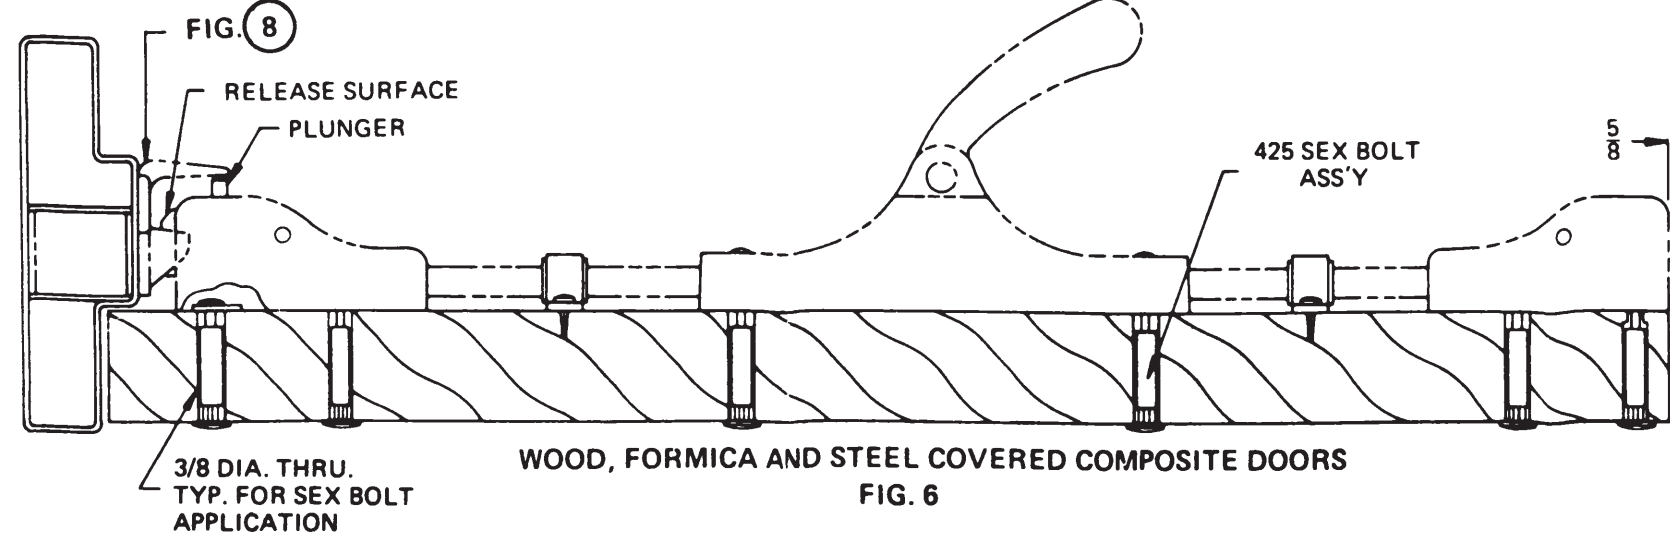

FIG. 6
NOTE: SEX BOLTS ARE FURNISHED FOR WOOD, FORMICA, AND STEEL COVERED COMPOSITE DOORS. SEE FIG. 6
6. INSTALL SOFFIT LATCH BOLT ASSEMBLY (FIG. 6)